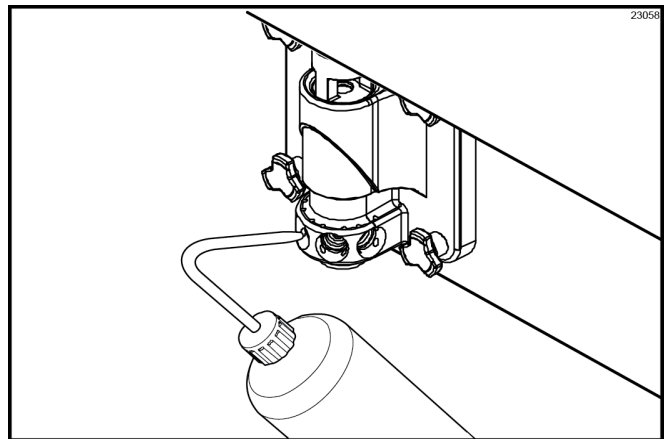

Figure-26
6. Fill the squeeze bottle with sanitizing solution. With a pail beneath the door, insert the tube end of the squeeze bottle into the syrup port and squeeze the bottle firmly. This action will force solution out of the adjacent port and down around the spinner. This procedure should be performed for at least 10 seconds per port. (See Figure-26.)